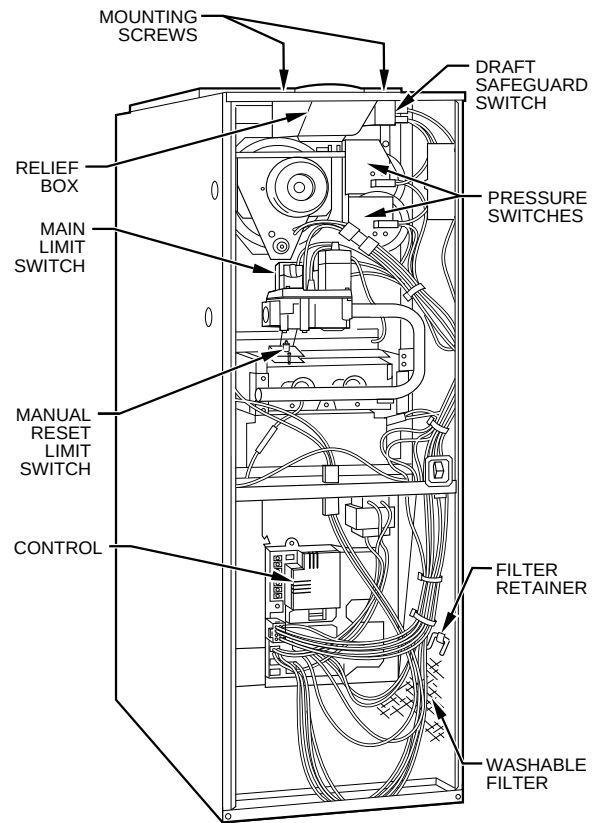

**Fig. 6—Model 330AAV Upflow**
Each furnace requires 1 or 2 filters which are installed in the blower compartment. (See Fig. 6.) To remove filters for cleaning or replacement, proceed as follows:
- Release filter retainer from clip at front of furnace casing. (See Fig. 6.) For side return, clips may be used on either or both sides of the furnace.
5. Remove 2 screws that secure relief box. (See Fig. 6 or 7.)